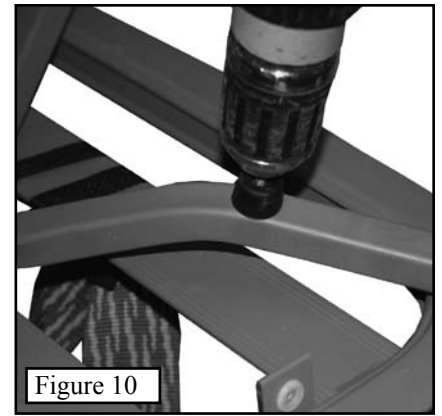
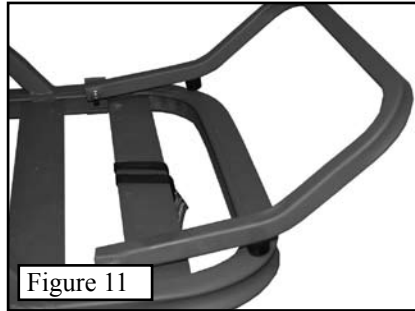

Figure 10
Figure 11
Step 7. Fold the bar down and note where it crosses the stand frame - make a mark on the footrest at this point. Fold the bar back up. Secure the two rubber bumpers at the mark using the two remaining self tapping screws as shown in **Figure 10**. Your finished footrest should look like **Figure 11**.